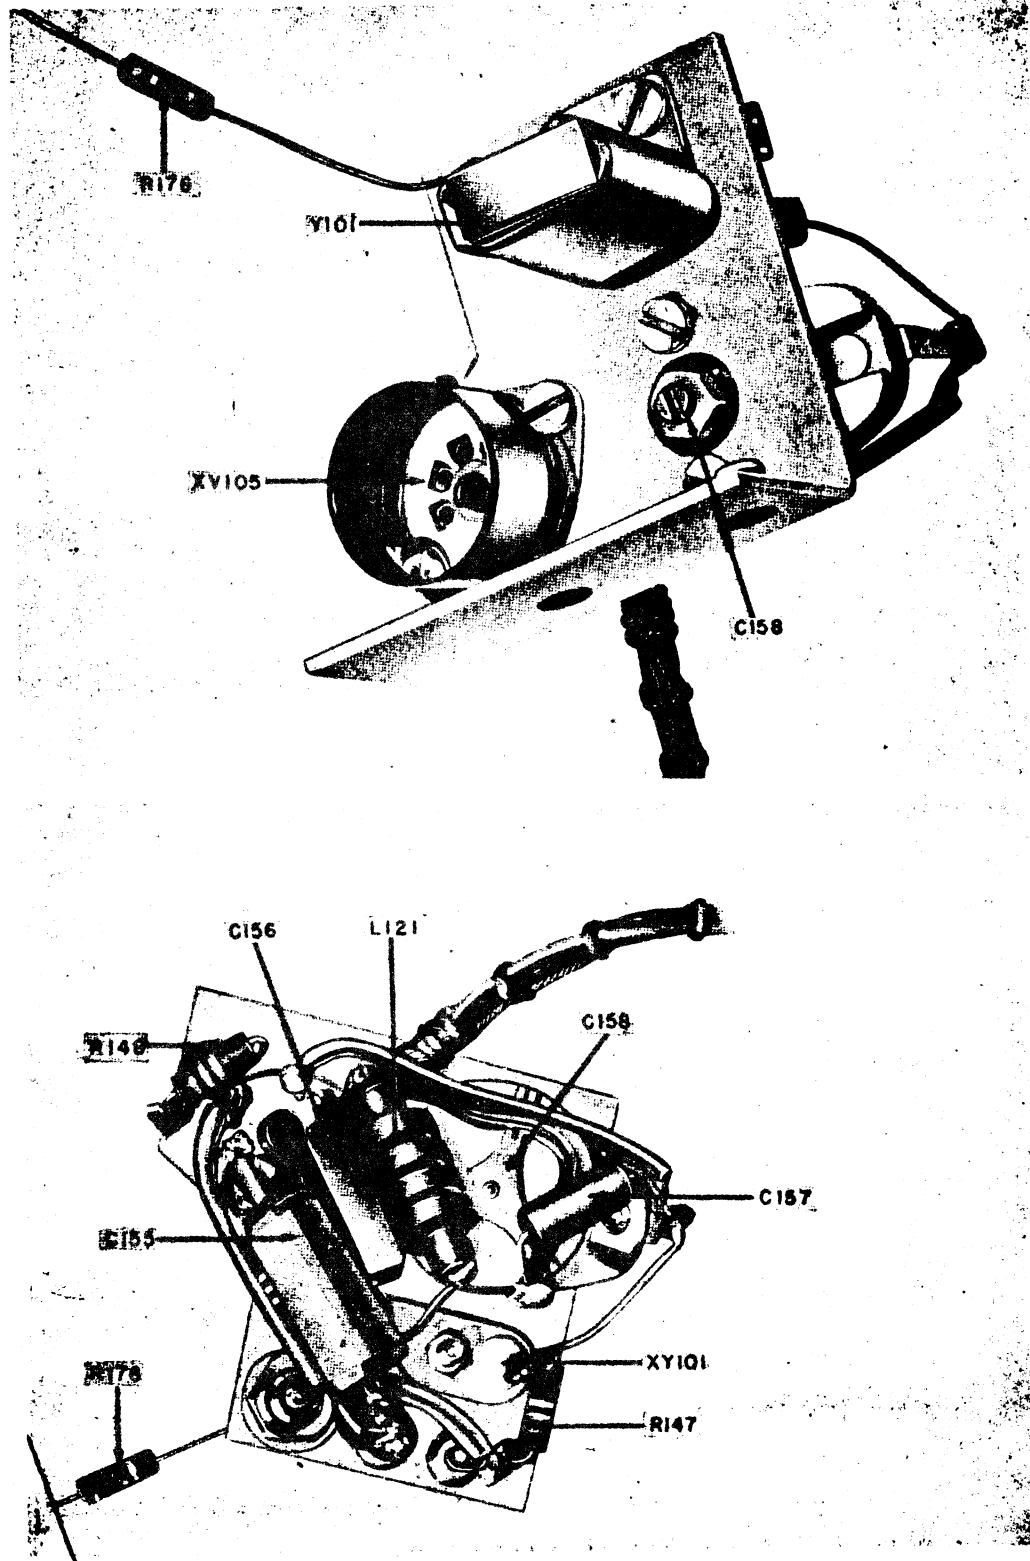

Figure 6-9. Top and Bottom Views of Crystal Calibrator Bracket
<p>(1) Provision is made for calibrating the 1 mc frequency of the crystal calibrator, if it is suspected that its accuracy has fallen off in excess of $\pm 0.05\%$. The calibration should be accomplished in the following manner:</p> <p>(a) Remove RF Signal Generator SG-85/URM-25D. (See par. 8a).</p> <p>(b) Connect the signal generator unit to Power Supply PP-977/URM-25D.</p> <p>(c) Tune a receiver, such as Navy Model RBC series to the 5 mc signal of Navy station WWV.</p> <p>(d) Turn the signal generator on and CARRIER CONTROL fully counter-clockwise.</p> <p>(e) Turn MOD-XTAL & METER SELECTOR switch (S102) to XTAL position. Connect a lead from the X-200K RF OUTPUT jack J101 to the antenna input on the RBC. Sufficient crystal output will be available at J101 to drive the receiver.</p> <p>(f) With the receiver tuned to WWV, adjust crystal frequency adjusting capacitor (C158) (figure 6-9) for zero beat (fifth harmonic of 1 mc crystal) against WWV. A set of earphones or speaker can be used for monitoring this beat.</p>